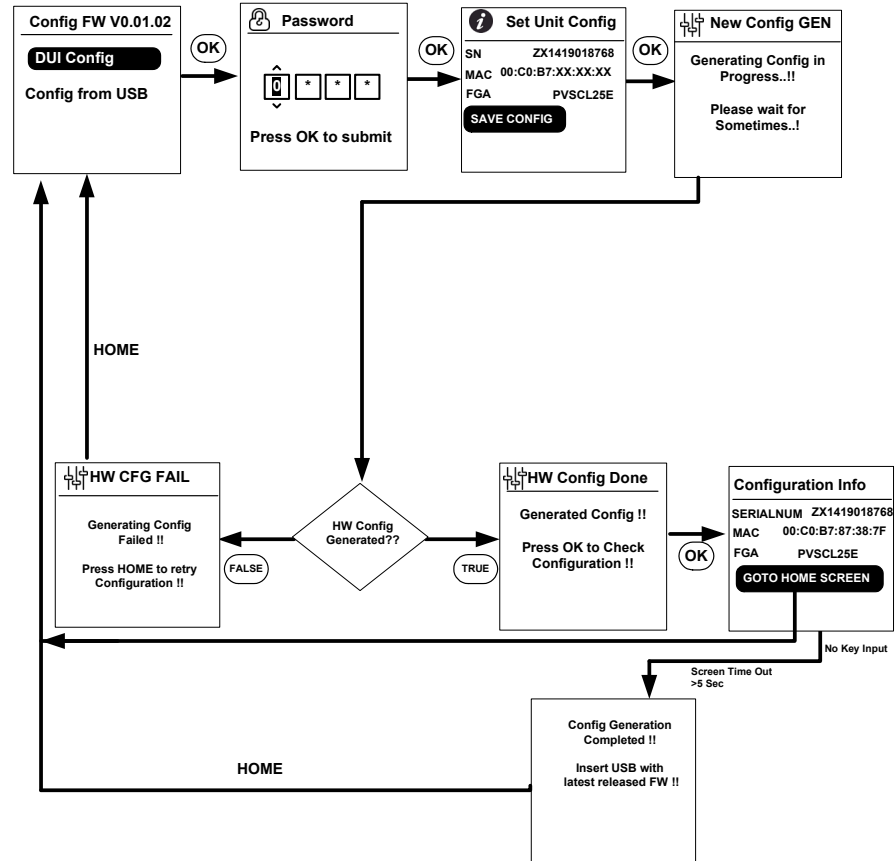

Figure 1-15 Configuration Info screen
- n) Once hardware configuration is generated user can check the same details on **Configuration Info** screen as shown in Figure 1-15 on page 1-17.